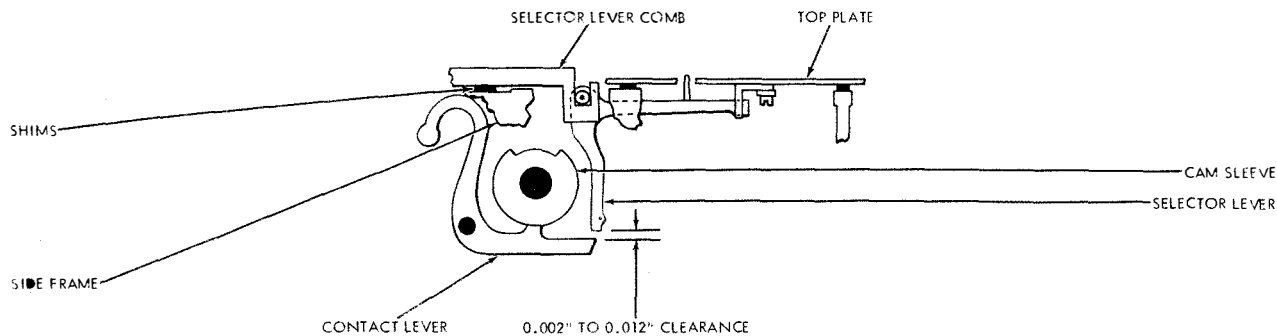

Figure 7-90. Selector Lever Comb
(23) **SELECTOR LEVER COMB.** (See figure 7-90.)